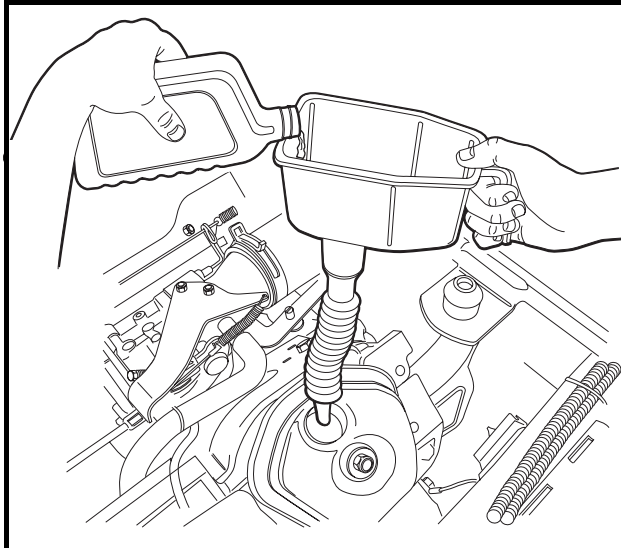
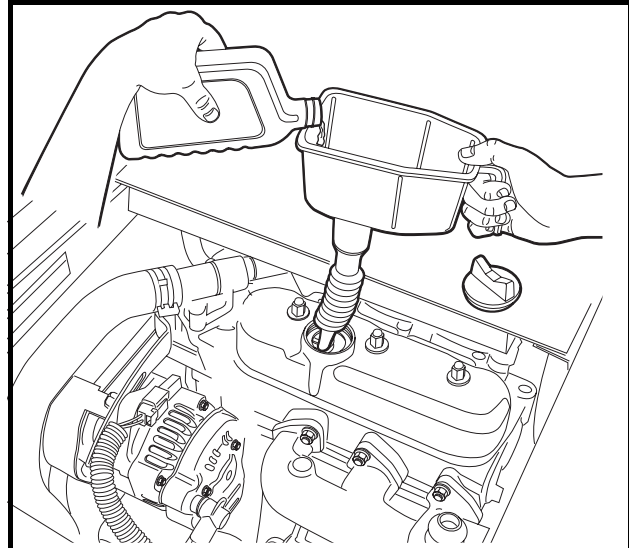
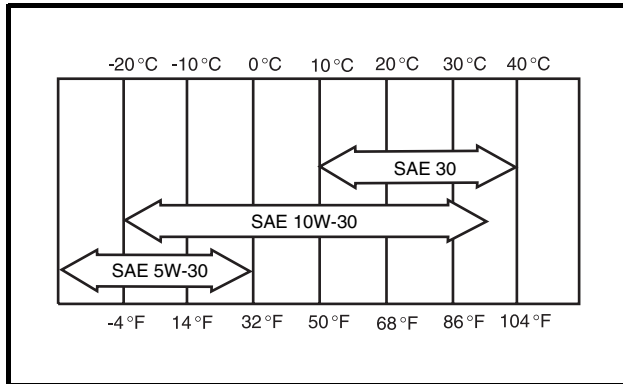
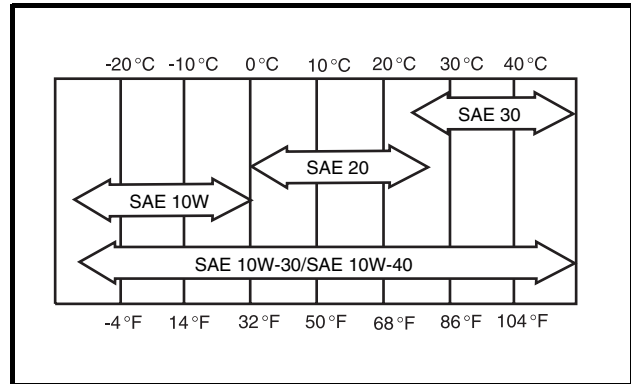

Figure 27 Add Engine Oil – Gasoline Vehicles
Figure 28 Add Engine Oil – Diesel Vehicles
Figure 29 Oil Viscosity Chart – Gasoline Vehicles
Figure 30 Oil Viscosity Chart – Diesel Vehicles
1. Add engine oil; use a funnel or pour spout to direct the oil into the opening (**Figure 27 or Figure 28**). With filter change, the engine requires 1 qt. and 25 oz (1.7 L) of oil per change for gasoline vehicles and 3 qt. (2.8 L) for diesel vehicles. Refer to oil viscosity guidelines for selection of oil grade (**Figure 29 or Figure 30**). **See following CAUTION.**
Choose the viscosity according to the temperature as shown in the appropriate oil viscosity chart (**Figure 29** or **Figure 30**). See following **NOTE**.